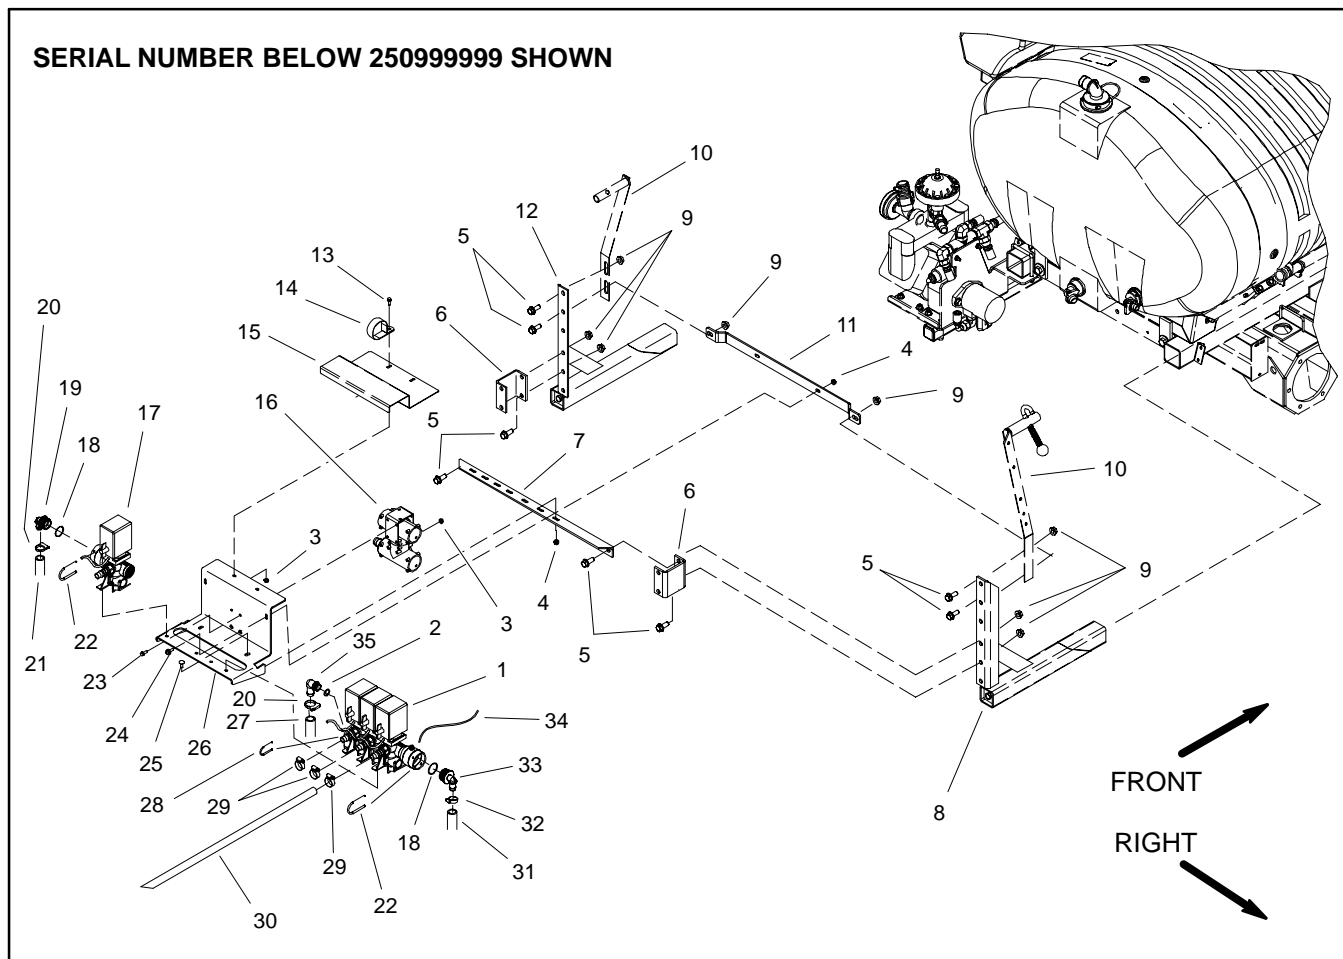

Figure 20
Removal (Fig. 20)
6. Remove additional spray control components as required using Figure 20 as a guide. Discard all removed O-rings and gaskets.
Assembly (Fig. 20)
1. Install spray control components using Figure 20 as a guide. Replace all removed O-rings and gaskets.